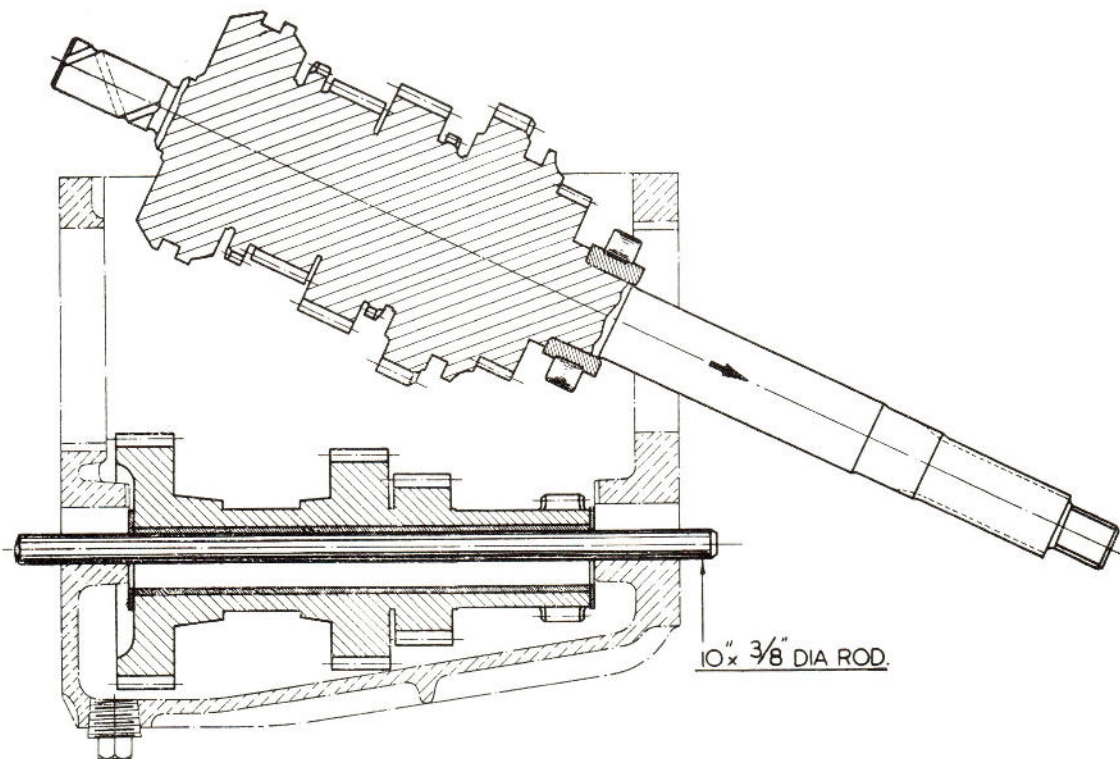

Fig. 50
- the bushes in the countershaft gear and grease the thrust washers and assemble in the gearbox. Thread a $\frac{3}{8}$ " rod through the gears, which is long enough to protrude at either side of the gearbox so as to prevent the thrust washers dropping out of position (See Fig. 50).